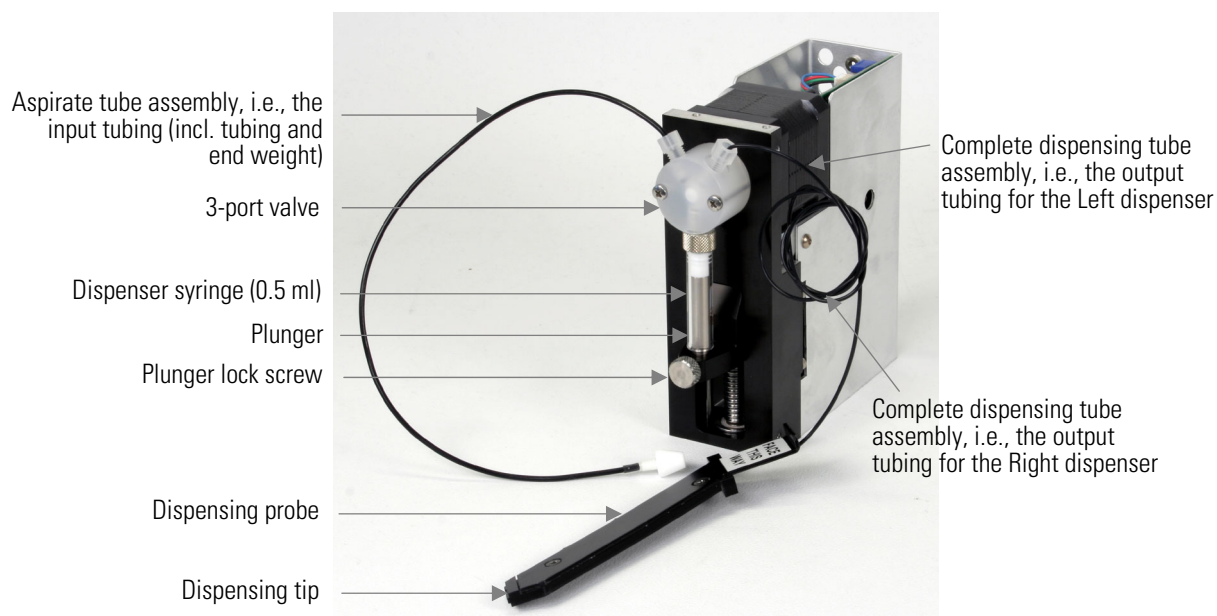

Figure 5–30. Dispenser assembly (unattached)
To replace a dispenser syringe (Figure 3–16, Figure 3–17 and Figure 5–31), follow these steps:
1. Remove the liquid from the dispenser syringe (Figure 5–30) and from the tubing.